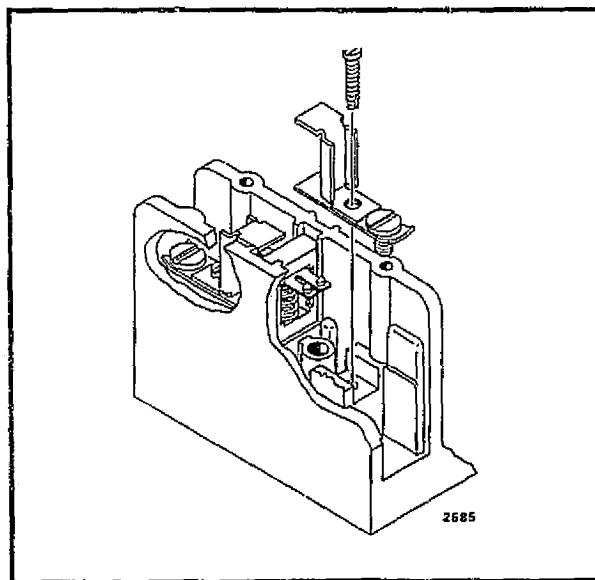

FIG. 12—ATTACHING STATIONARY CONTACTS FOR NORMALLY CLOSED CONTACT ASSEMBLY.
4. Turn contactor upright and place new stationary contacts from bag assembly over the top of the shorting bar. Make certain four rounded points on bar make contact with the stationary contacts. Firmly fasten each contact with screw as shown in Fig. 12.